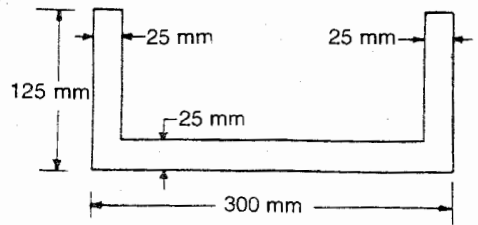

Fig. 6.31
8. Determine the moment of inertia of the channel section about a horizontal axis passing through the centroid. fig 6.31